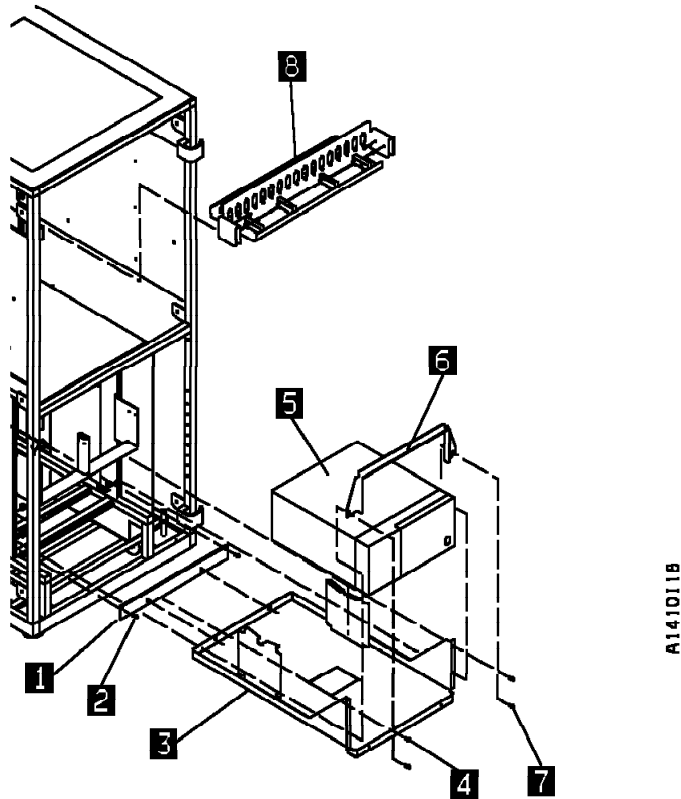

Figure 6-6. Model L14 Installation of A00 Controller
**Model L14 Shelf Hardware Installation:** Figure 6-6 shows the A00 Controller as it is assembled within the Model L14.